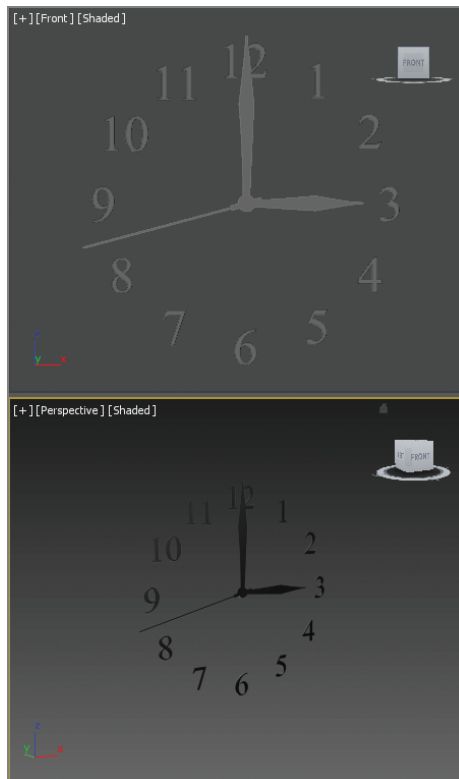

FIGURE 2.38 The clock hands positioned to match the clock face
12. Select and move each clock hand into the position you see on the clock image (Figure 2.38).